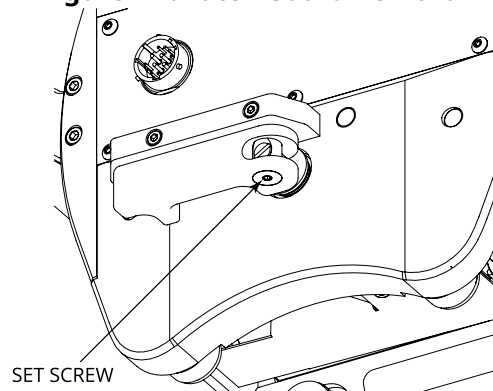

Figure 12 : Latch Set Screw
2. Next, loosen the set screw on the bottom of the latch assembly - see Figure 12 : Latch Set Screw on page A-9 .